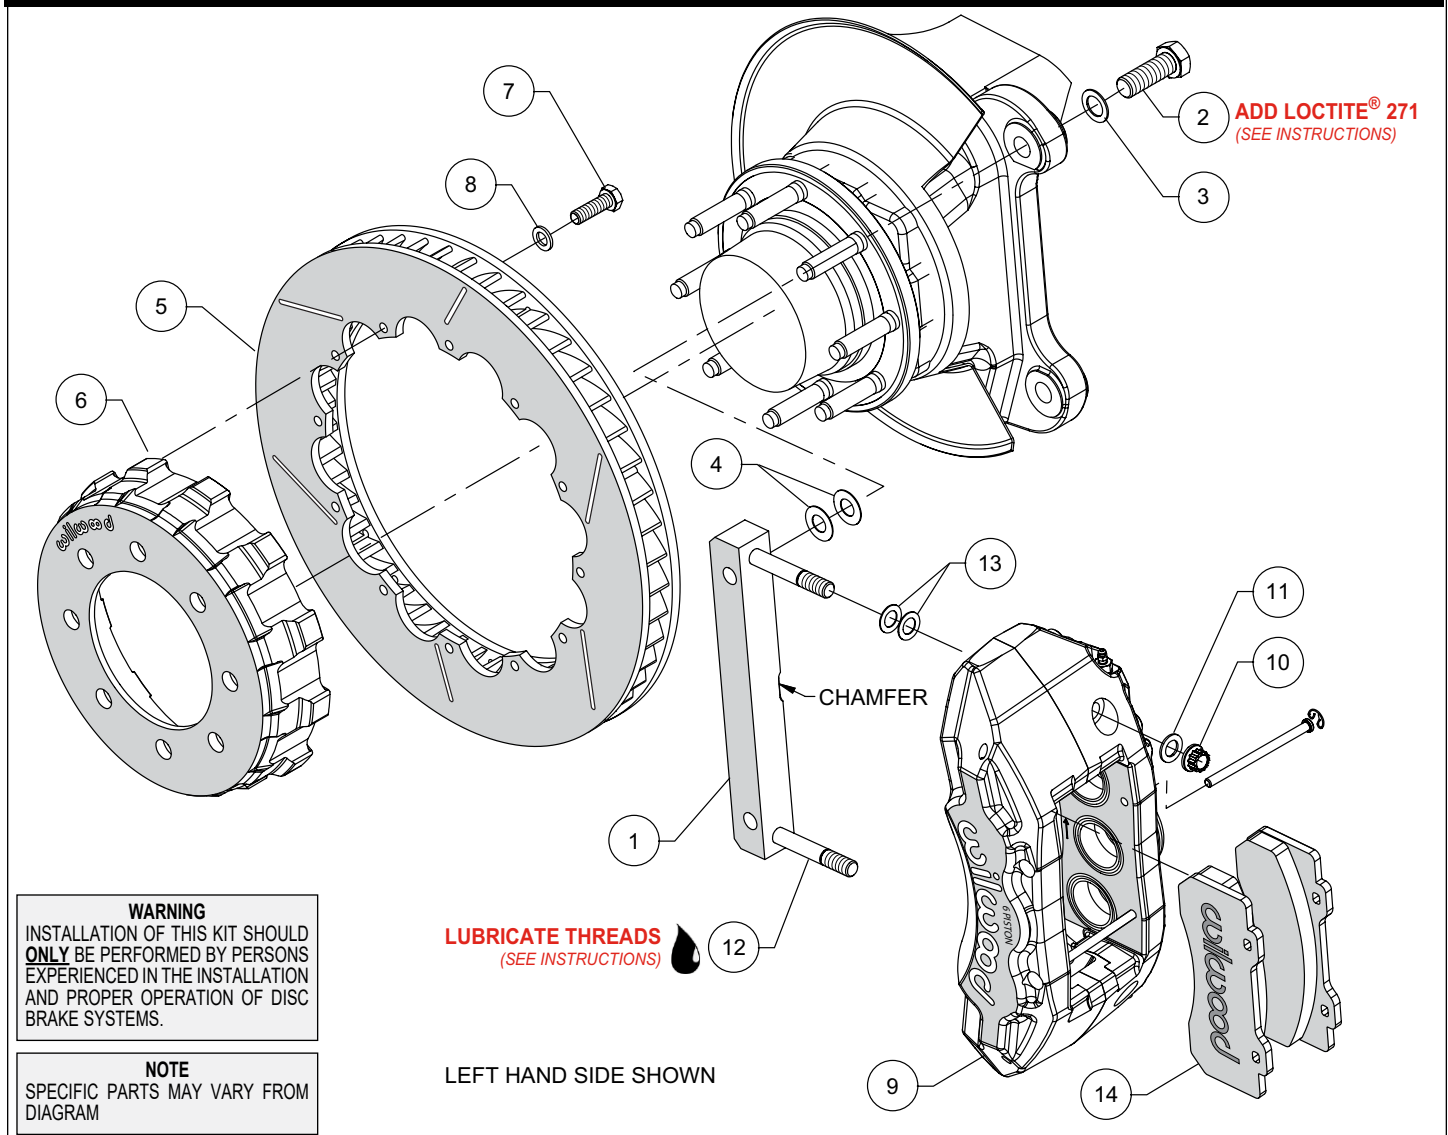
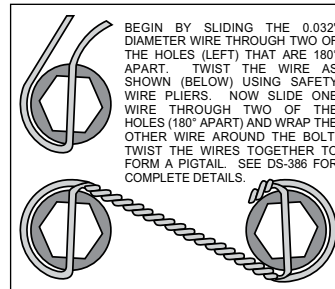

Figure 1. Typical Installation Configuration
Figure 3. Safety Wire Diagram
NOTE: Numbers in parenthesis refer to the parts list and Figure 1 on the preceding pages.
- The caliper mount bracket (1) should initially be installed with clean, dry threads on the mounting bolts. Orient the bracket as shown in Figure 1 and Photo 1 with the chamfer facing inward, away from the wheel, and install using bolts (2) and washers (3). Initially place two .024 thick shims (4) on each bolt between the bracket and upright, Figure 1. Temporarily tighten the mounting bolts. **NOTE:** The bracket must fit squarely against the mount bosses on the upright. Inspect for interference from casting irregularities, machining ridges, burrs, etc. Later, after the caliper alignment has been checked, the mount bolts will be secured using red *Loctite*® 271.
- Orient the rotor (5) and the hat (6) as shown in Figure 1 and Photo 2. Attach rotor to hat using bolts (7) and washers (8). Apply red *Loctite*® 271 to the bolt threads and torque to 25 ft-lb using a criss-cross pattern. For an added measure of security, the bolts may be safety wired using standard 0.032 inch diameter stainless steel safety wire as shown in Figure 3. Please refer to Wilwood's data sheet DS-386 (available at www.wilwood.com/Pdf/DataSheets/ds386.pdf) for complete safety wire installation instructions.
- NOTE:** This kit contains distinct right and left hand calipers that must be mounted in a specific direction, as described below. Lubricate the caliper mounting studs (12) with lightweight oil. Initially place two .032" thick shims (13) on each stud as shown in Figure 1 and Photo 3. Mount the caliper (9) onto the bracket (1) using lock nuts (10) and washers (11), Figure 1. Ensure that the caliper is mounted so that the largest pistons are at the rotor exit end of the caliper, in relation to the direction of rotor rotation. Temporarily tighten the lock nuts and view the rotor through the top opening of the caliper. The rotor should be centered in the caliper, Photo 4. If not, adjust by adding or subtracting shims (4) between the bracket and the upright. Always use the same amount of shims on each of the two mounting bolts. Once the caliper alignment is correct, remove the bracket mounting bolts (2) one at a time, apply red *Loctite*® 271 to the threads, and torque to 120 ft-lb.